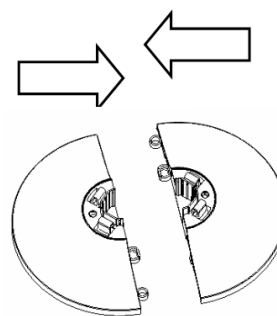

Figure 1
1. Lock rear base and front base together according to Figure 1.